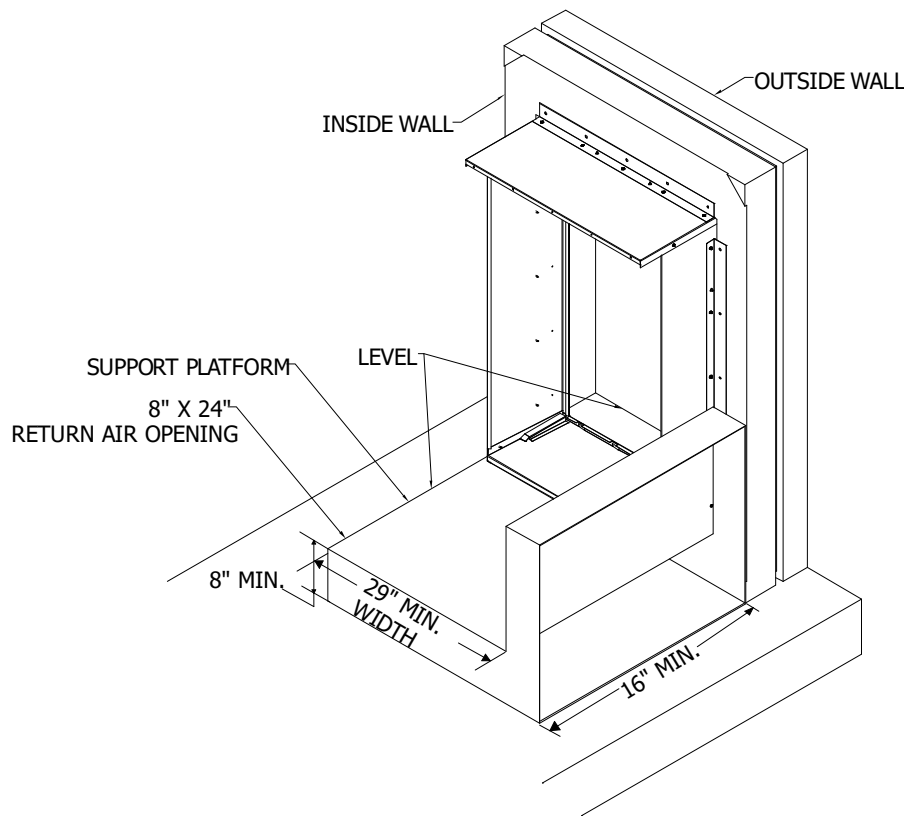

FIGURE 12 - Unit Support & Alignment
Support base construction should be built as below in **FIGURE 12 - Unit Support & Alignment**. It must be fabricated with plywood, framing lumber and/or any pre-approved sheet metal construction material. **FIGURE 12 - Unit Support & Alignment** is showing alignment of the platform top with the base panel of the wall sleeve.
- Refer to **FIGURE 12 - Unit Support & Alignment**.